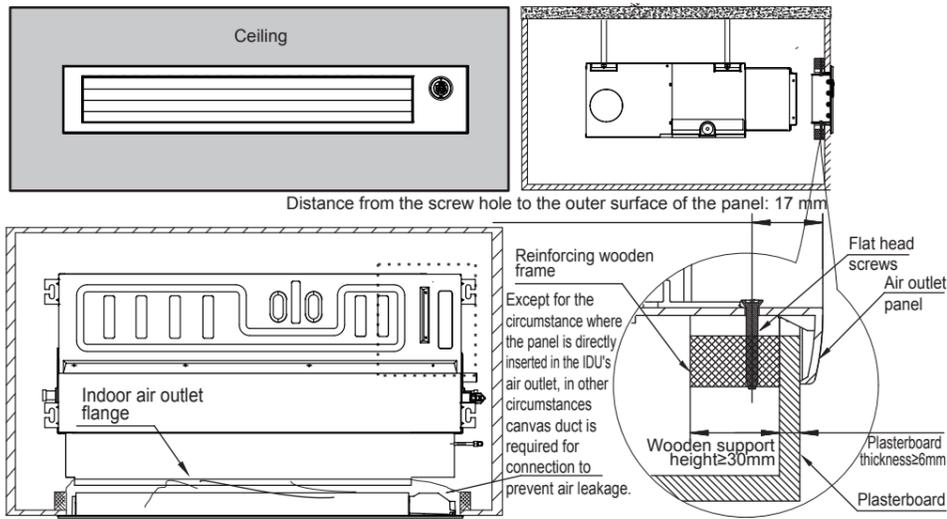

Figure 4
- Make sure to add reinforced wooden support for the air outlet at the ceiling opening hole of the panel. The height of the wooden support is shown in Figure 4.